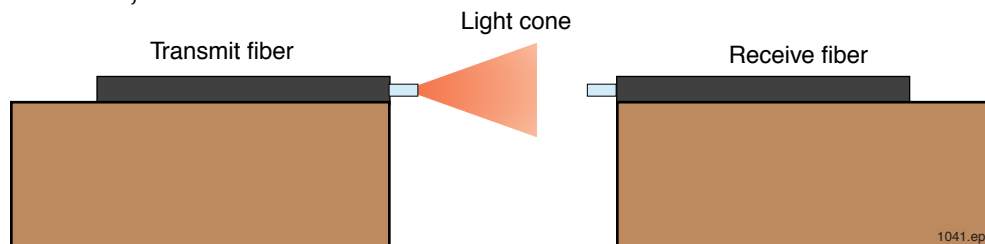
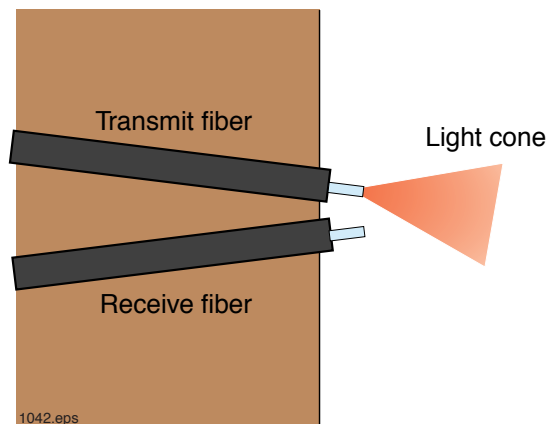

Figure 17. Side view of the Transmit optical fiber and Receive fiber pointed at each other for use in an active optical sensor.
Figure 18. Top view of the Transmit and Receive fibers arranged in a reflective sensing configuration.
6. Tape the free end of each optical fiber to the tops of two books of about the same thickness. Point the tips of the fibers at each other as shown in Figure 17, about 6 mm (.25 inches) apart.
16. Rearrange the optical fibers side by side on a single book, angled slightly toward each other, as shown in Figure 18.
20. How is this sensor configuration in Figure 17 different than the one in Figure 18? Is it the opposite—that is, does the volume increase when objects are present?